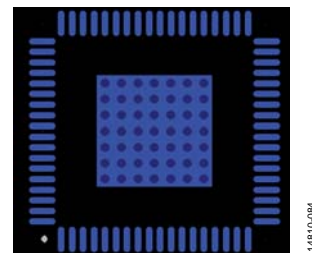

Figure 88. Exposed Pad Layout Example—Top View
- Place vias such that all layers of copper are connected, allowing for efficient heat and energy conductivity. For an example, see Figure 88, which shows 49 vias arranged in a 7 × 7 grid in the pad area.